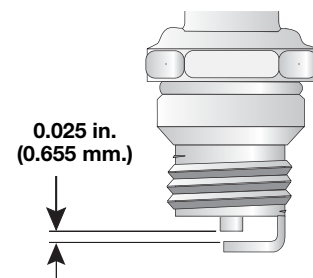

Fig. 42
4. Replace cracked, fouled or dirty spark plug. Set the air gap at 0.025 in. (0.655 mm.) using a feeler gauge (Fig. 42).